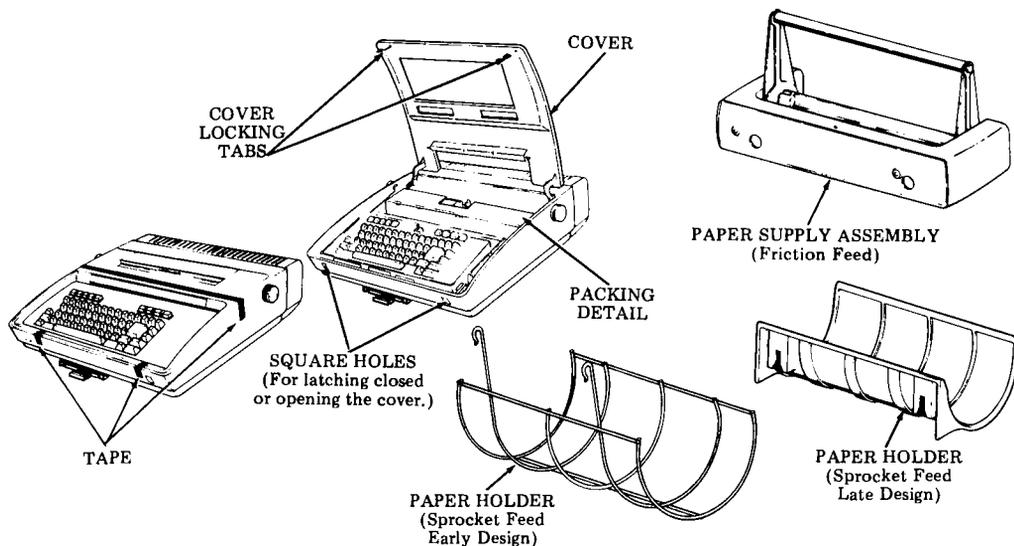

Fig. 2—Packing Detail
- 3.03 Unpack the large carton. Refer to instructions on the container. Remove tape securing the cover to the housing (Fig. 2).
3.04 Depress the cover locking tabs on the lower front of the cabinet and lift the cover. Remove the packing detail securing the print head in place (Fig. 2).